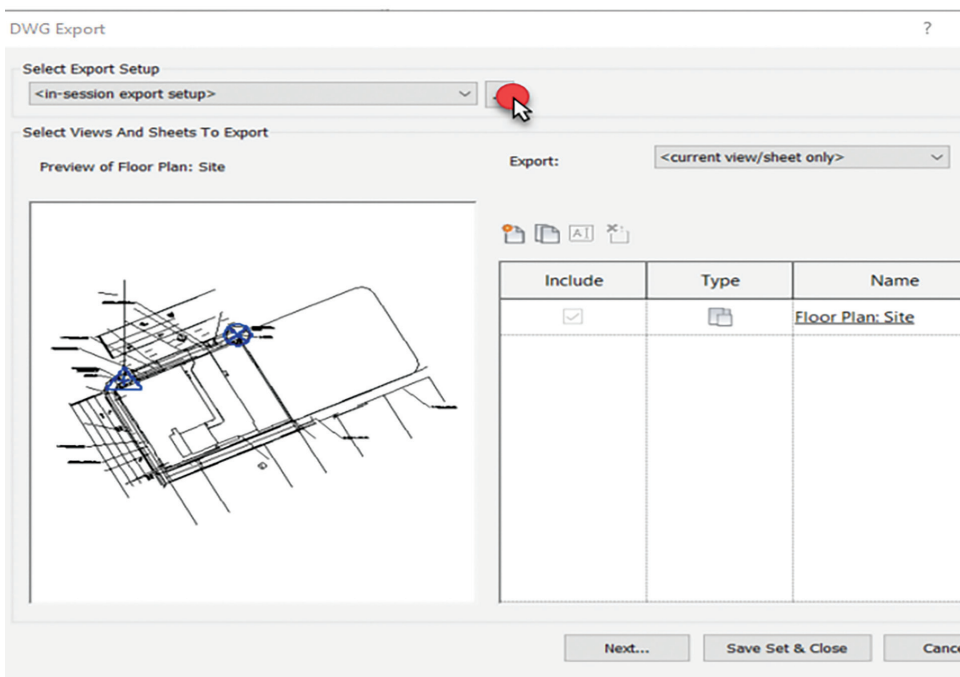

Figure 8
17. Select the "..." button to access the "modify DWG/ DXF export setup" settings (Figure 8).